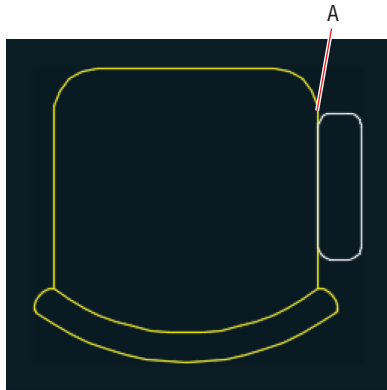

FIGURE 7.21 Drawing an armrest
- For the first corner, click point A shown in Figure 7.21. Then type @3,-10 (or @7,-25 for metric) and press Enter to complete the RECTANGLE command.